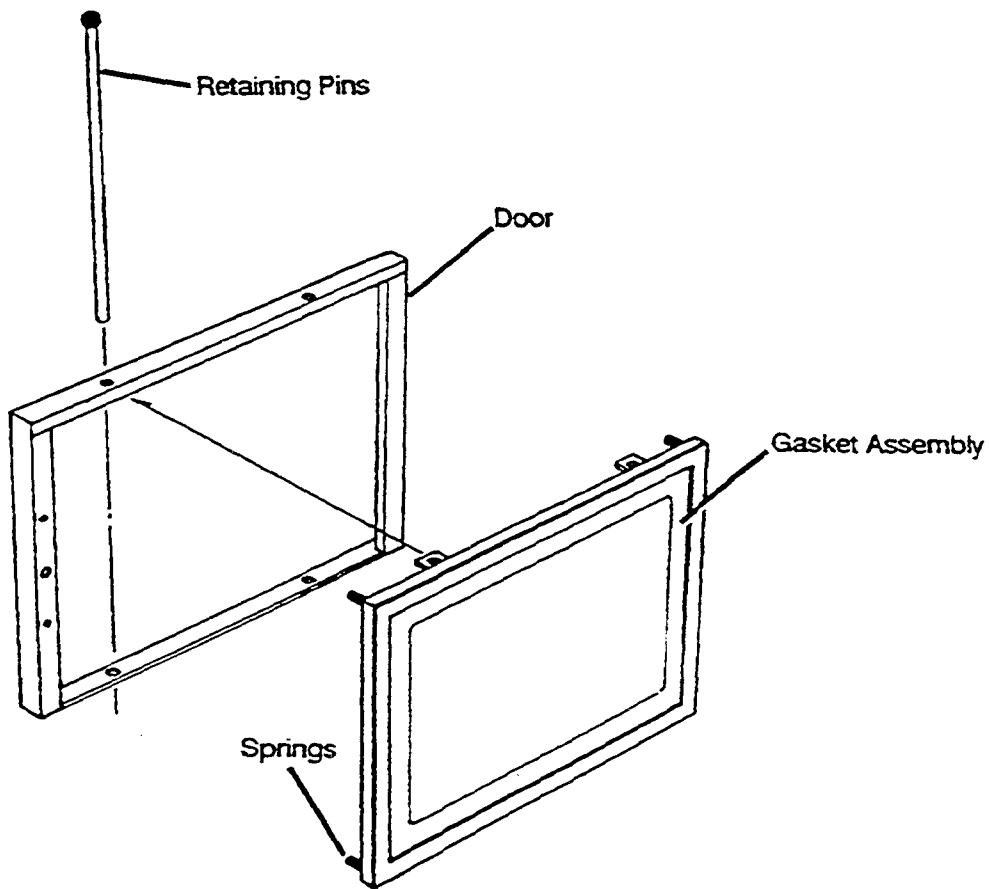

Figure 3-3. Door Gasket Assembly
- Remove the door gasket assembly (Figure 3-3).